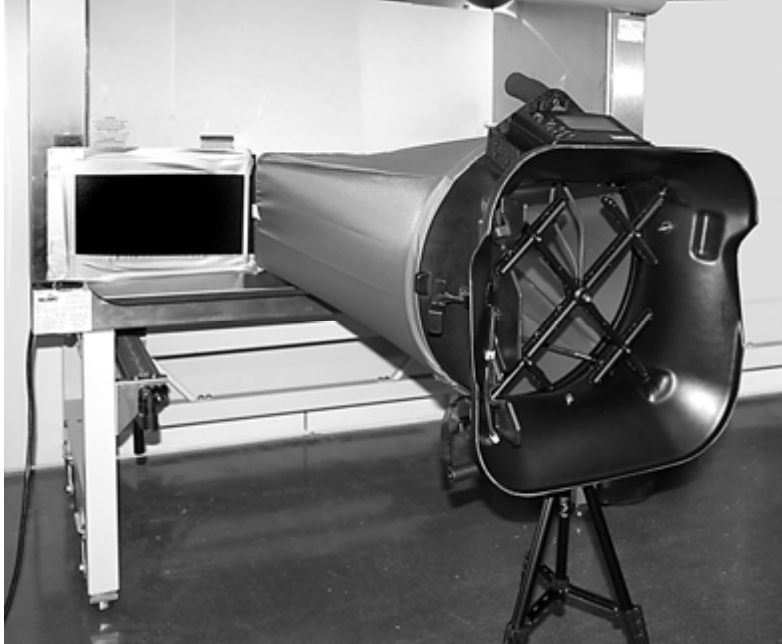

Figure 26: Adjust Height and Position of Telescopic Stand
5. Adjust the height and position of the telescopic stand so that the bottom part of the hood frame rests against the cabinet opening, and the Micromanometer is horizontal to the cabinet (see Figure 26).